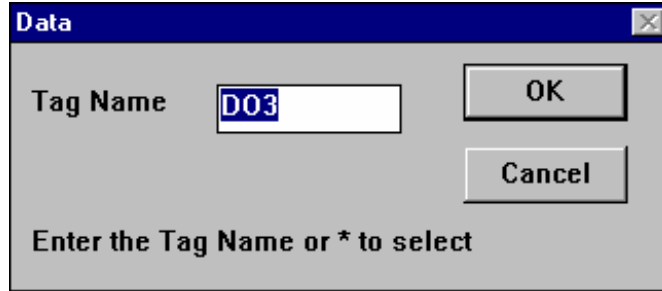

Figure 13-7: Data Dialog Box
3. Right-click on the selected row and select Data from the pop-up menu that appears. The Data dialog box appears (Figure 13-7).